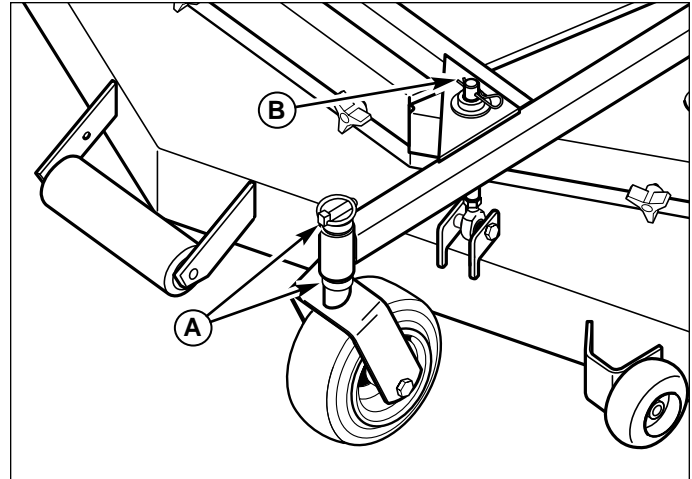

Figure 17. Caster Spacers & Hairpin Clip
1. Make sure there is one spacer above and below the frame on the front caster shafts and place hairpin clips in the 2" cutting height position (see Figure 17).